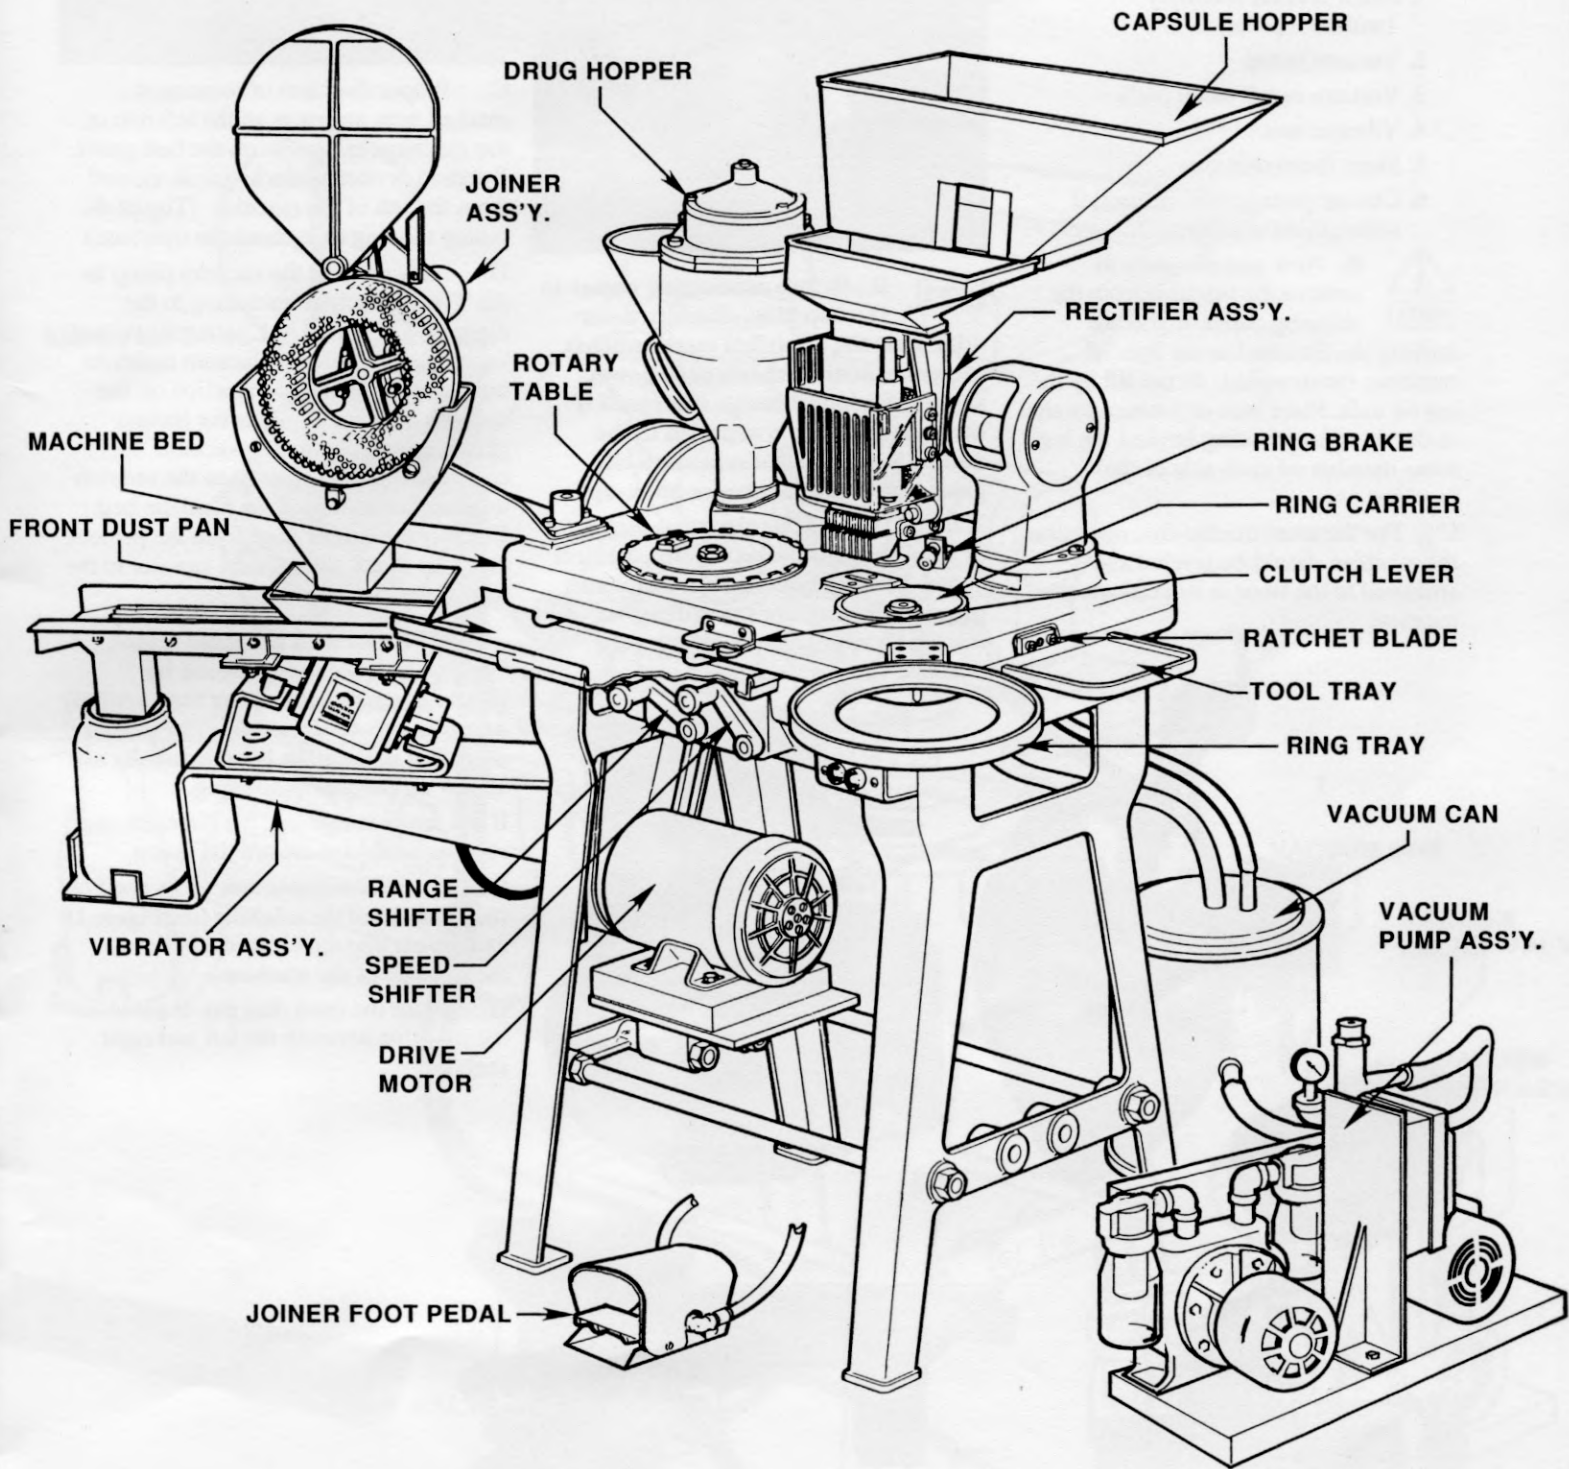

FIG. 1 - TYPE 8 CAPSULE FILLING MACHINE
F. Place the vibrator unit on its shelf on the left front of the machine (see Figure 1) and plug it into the electrical outlet on the left side of the machine.